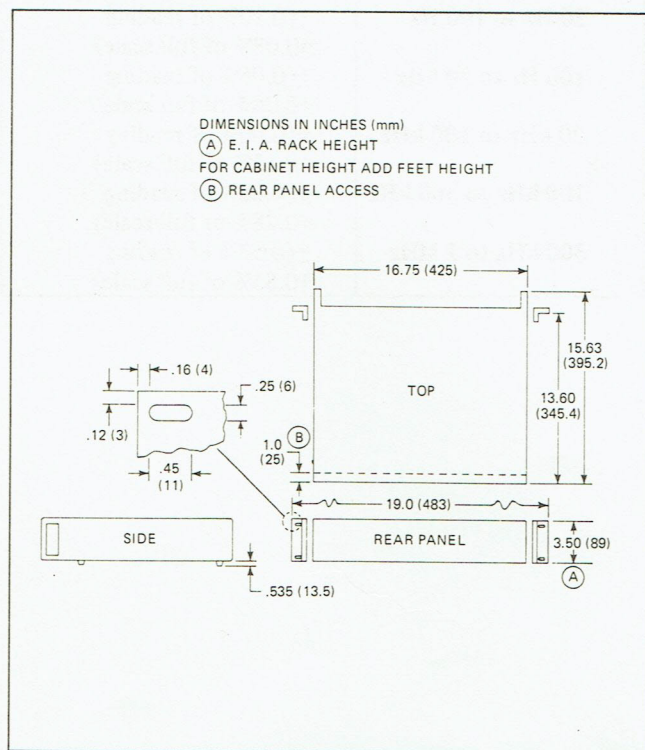

Figure 1.6 - Dimensions
1.39 A dimensional outline of the Model 4800 is shown in figure 1.6.